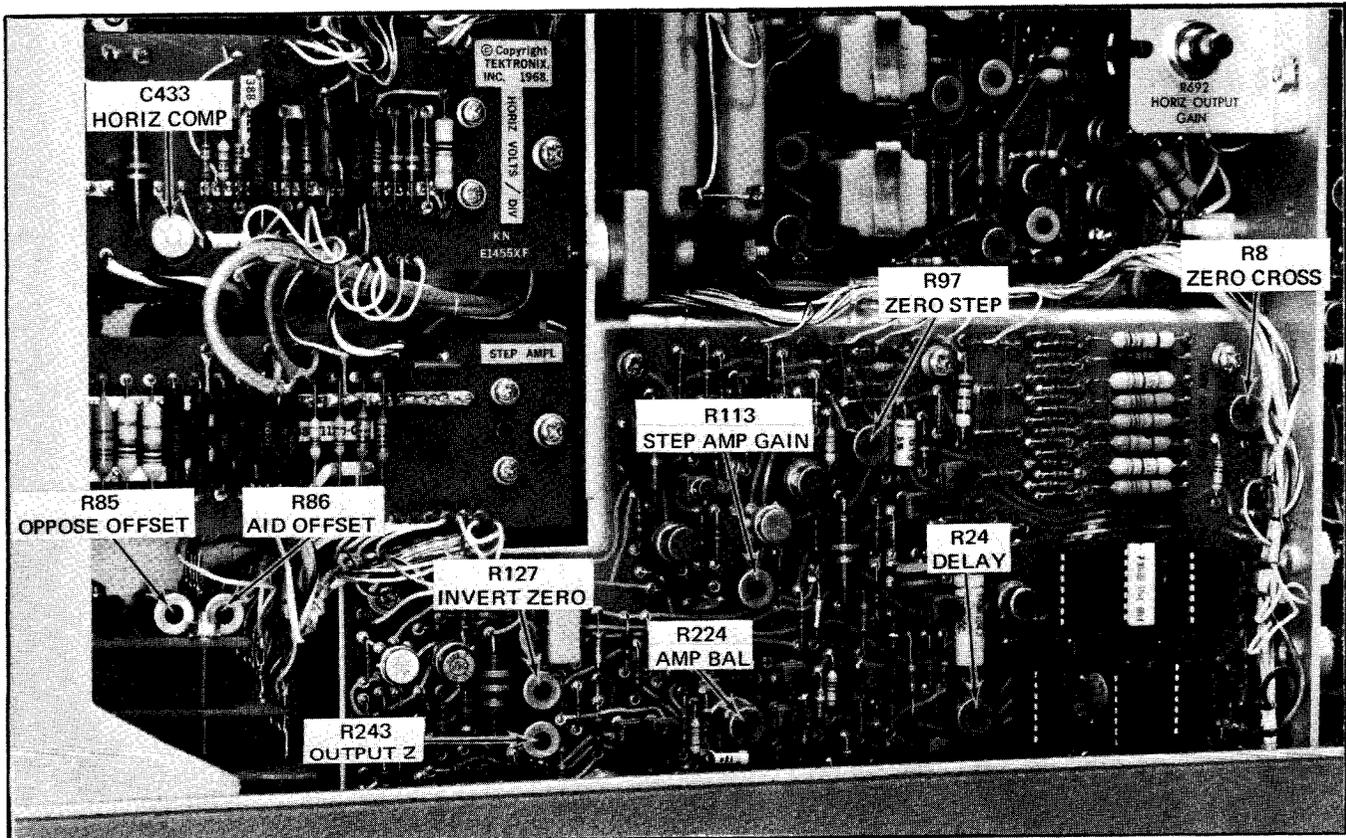

Fig. 5-9. STEP GEN circuit board: Location of adjustments in step 14 and steps 22 through 26.
c. ADJUST—R8, ZERO CROSS adjustment, (see Fig. 5-9) if the display is not correct.
g. ADJUST—R24, DELAY adjustment, (see Fig. 5-9) if the steps do not occur at the peak of the Collector Supply output.
e. ADJUST—R224, AMP BAL adjustment, (see Fig. 5-9) if the spot is not centered.
h. ADJUST—R97, ZERO STEP adjustment, (see Fig. 5-9) if the display is not centered.
m. ADJUST—R127, INVERT ZERO adjustment, (see Fig. 5-9) if the spot is not centered.
k. ADJUST—R86, AID OFFSET adjustment, (see Fig. 5-9) if the level of the zero step with offset is not correct.
q. ADJUST—R85, OPPOSE OFFSET adjustment, (see Fig 5-9) if the level of the tenth step with offset is not correct.
h. ADJUST—R243, OUTPUT Z adjustment, (see Fig. 5-9) if the spot is not centered.